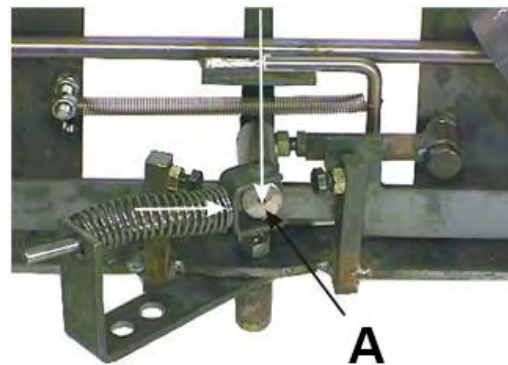

Figure 22. The splitting mechanism in the initial position
1. Initially, the valve's jointed lever A is in the middle position, and the spring pushes it to the right. (Figure 22.)